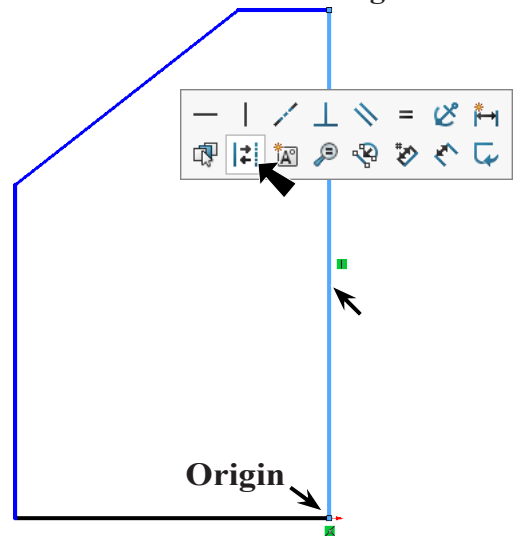

**Fig. 1**
Step 2. Click **Right Plane**  in the Feature Manager and click **Sketch**  on the context toolbar, **Fig. 1**.
Step 3. Click **Line**  (L) on the Sketch toolbar.